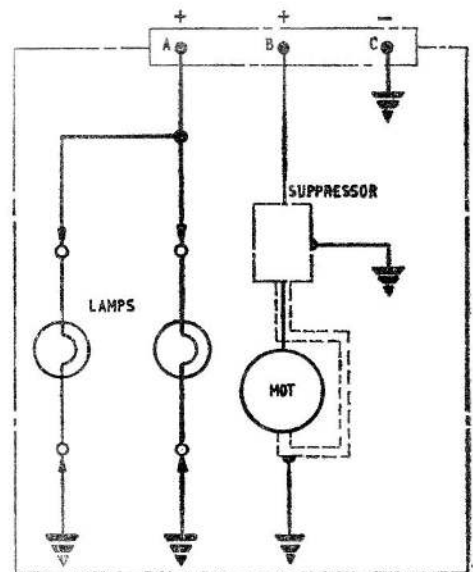

Fig. 1. Circuit diagram
1. The anti-collision lamp, Type G8400A-8-24 is similar to that described and illustrated in the main chapter but has minor constructional differences and incorporates a connector plug AN3102A-10SL-3P for electrical connection instead of the two-way terminal block. The connector is mounted on the base of the mechanism cover. A circuit diagram is given in fig. 1.